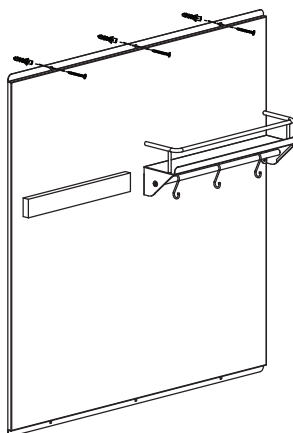

Figure 4
7. Mark where the screw holes are on the bottom and the top, drill the holes and screw in the wall anchors. Fix the backsplash to the wall with screws on the bottom and the top (see Figure 4).